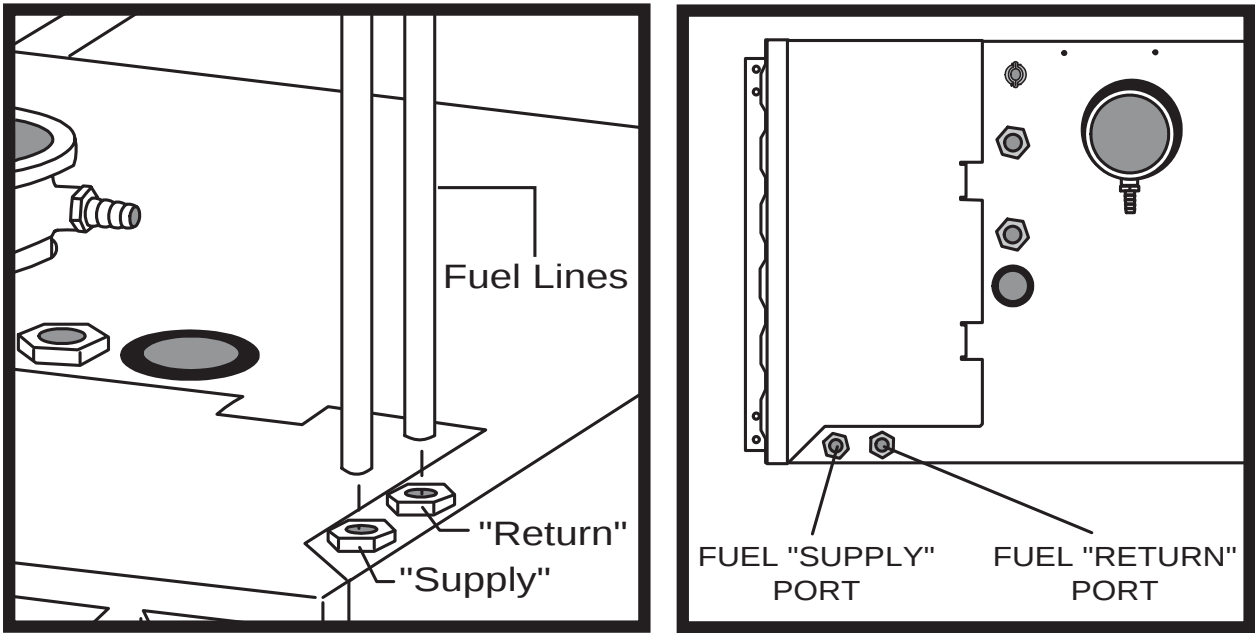

Figure 26
4. Install and tighten appropriate fuel fittings into the Hydro-Hot's Fuel Ports as well as the two selected ports of the Fuel Filter, see Figures 26 and 27.